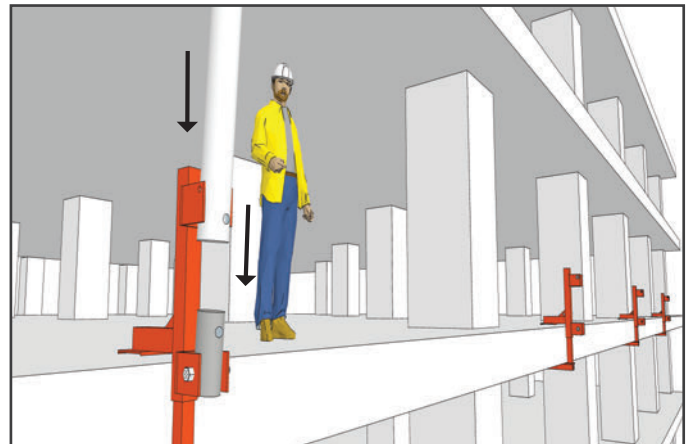

Fig. 11
3. When aligned, slowly lower pole onto swivel coupler and attach pole to coupler using 5" Bolt and Lock nut. (see figure 11)